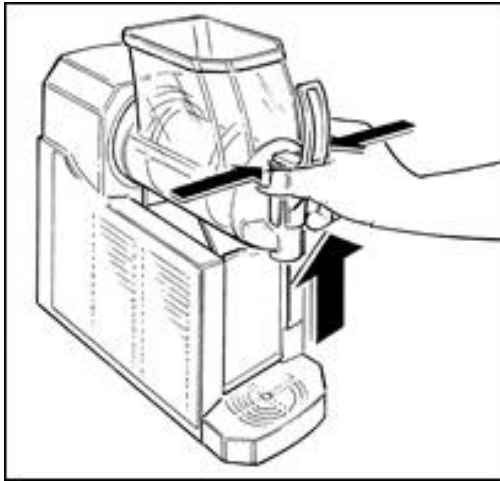

Fig. 34
- Simultaneously press the two securing tabs and lift the tap to extract it from its seat (see Fig. 34).